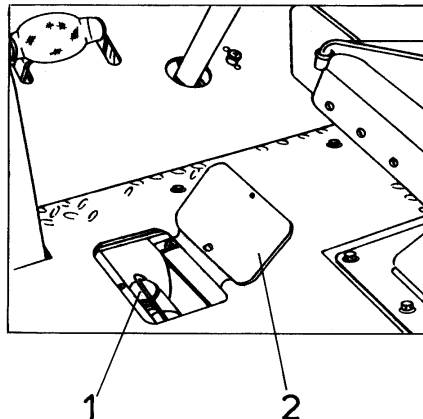

Fig. 5.7. Adding Fluid Into Master Brake Cylinder
If the sight gauge is only partially filled or shows no fluid, lift the inspection door (2, Fig. 5.7) in the floorboard just to the left of the operator's seat. Clean filter cap (2) before removing it to prevent foreign matter from falling into the master cylinder housing. Undo the securing fasteners and remove the filter cap (1, Fig. 5.7) and add fluid. The correct fluid level is 6 [mm] from the top edge of the master cylinder. Reinstall the filler cap.